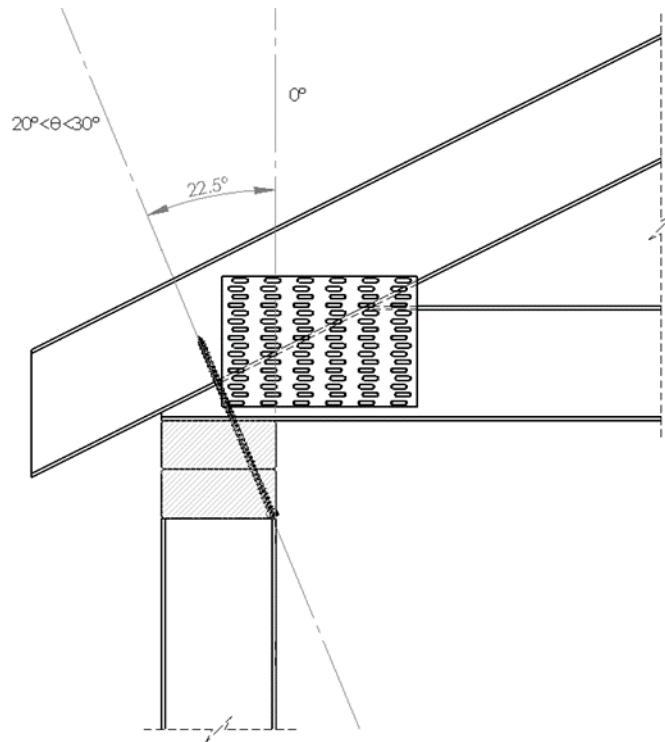
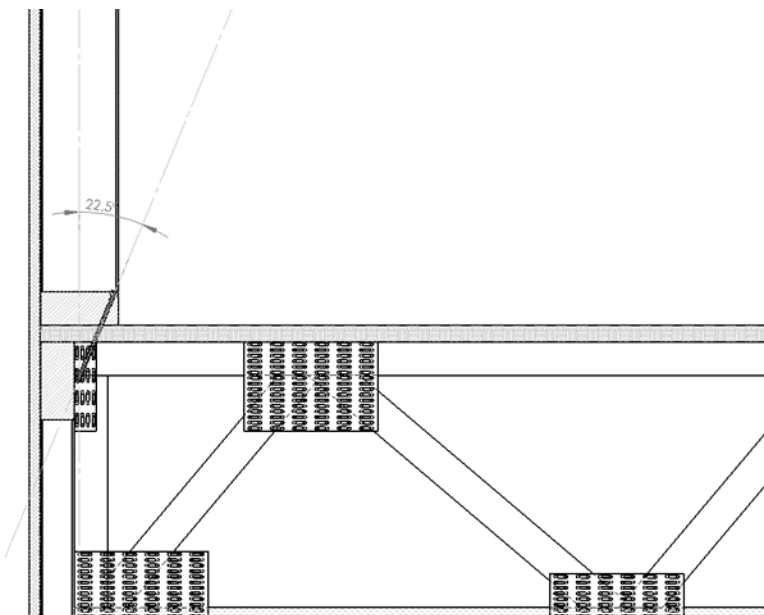
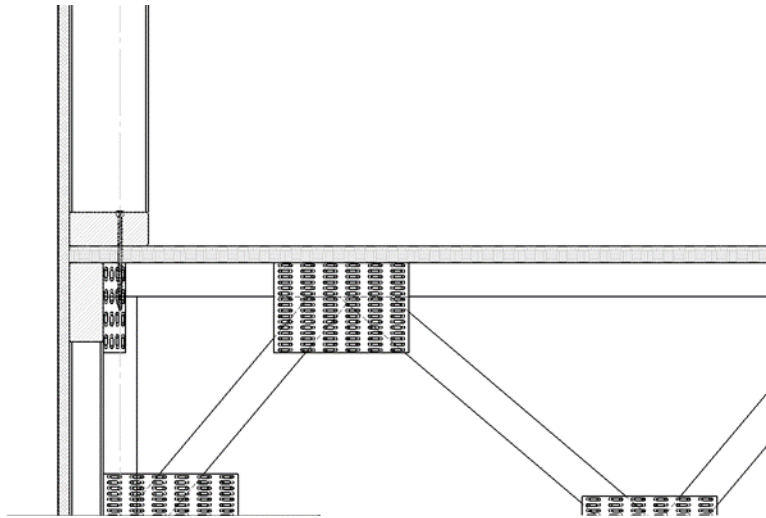

Figure 1. Installation of Fasteners at an Angle in Double Top Plate to Truss/Rafter/Joist Applications
Figure 4. Installation of #14 x $4\frac{1}{2}$ " Truss Screws at an Angle in Bottom Plate to Floor Truss/Joist Applications
Figure 5. Perpendicular Installation of #14 x 4¹/₂" Truss Screws in Bottom Plate to Floor Truss/Joist Applications
- 2.4.1 Install CAMO Series #14 x 6" Truss Screws upward through the wall top plates or wood structural framing member at the bottom corner of the top plate(s) and into the center of the wood truss or rafter. The fastener shall be installed at an upward angle from the vertical of 20° to 30° (Figure 1), and shall penetrate the wood truss, rafter or joist within 1/4" of the centerline. Fasteners located between studs may be installed at a 0° angle, as shown in Figure 5.
2.5.1.2 The CAMO Series #14 x $4\frac{1}{2}$ " Truss Screws shall be installed at a downward angle from the vertical of 20° to 30° (Figure 4) or perpendicular to the bottom plate (Figure 5) and shall penetrate the wood truss, rafter or joist within $\frac{1}{4}$ " of the centerline.